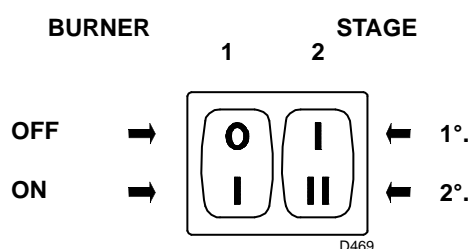
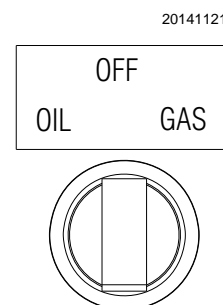

Fig. 32
Fig. 33
Keep the burner operating at 1st stage by setting the switch 2)(Fig. 32) to the 1st stage position. The fan damper can be adjusted by operating the orange level of the servomotor ("Servomotor adjustment" on page 32).
Turn switch 2 ) (Fig. 32) to the 2nd stage position. The fan damper can be adjusted by operating the red level of the servomotor ,("Servomotor adjustment" on page 32).
Start the burner by closing the remote controls, with the switch 1)(Fig. 32) in the "ON" position and with the fuel selector switch set to "OIL" (Fig. 33).
The pump can be considered to be primed when the light oil starts coming out of the screw 3)(Fig. 22 on page 23). Stop the burner: set switch 1)(Fig. 32) to "OFF" and tighten the screw 3).
- switch 1)(Fig. 32 on page 29) in "**BURNER ON**" position;
- switch 2)(Fig. 32 on page 29) in "**1st STAGE**" position;
Turn switch 2)(Fig. 32) to the 2nd stage position: the servomotor will open the air damper on the value previously set for the light oil and will control the opening of the 2nd stage VR2 gas valve.
Turn switch 2)(Fig. 32) to the 1st stage position: the servomotor will close the air damper on the value previously set for the light oil and will control the opening of the 1st stage VR1 gas valve.